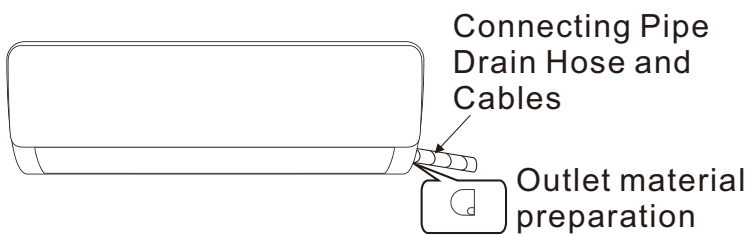
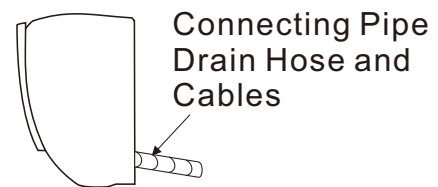

Fig 1
Fig 2
1. Depending on the position of the unit, the piping may be routed sideways from the left or the right (Fig 1), or vertically from the back (Fig 2) (depending on the pipe length of the indoor unit). In the case of sideways routing, cut off the outlet cutting stock of the opposite side.